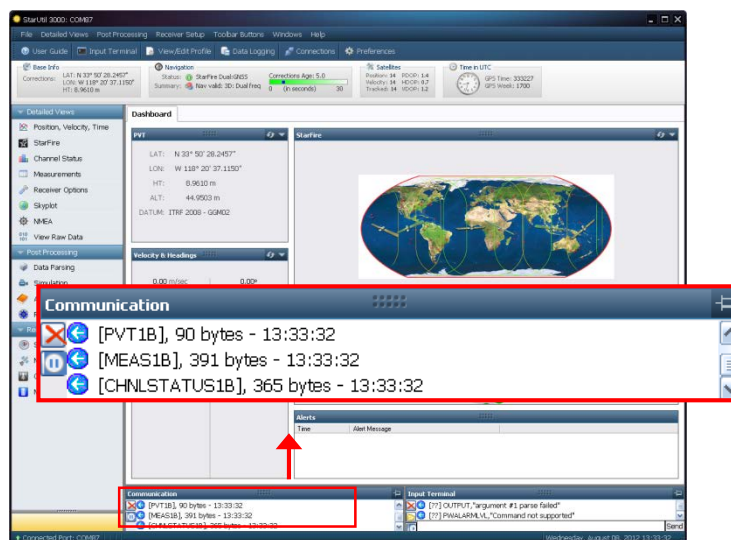

Figure 5: StarUtil 3000 Communication Window
18. Verify that the SF-3050 is connected to the PC: Scrolling messages in the *Communication* window indicate that a valid connection is established at the required baud rate (see Figure 5).